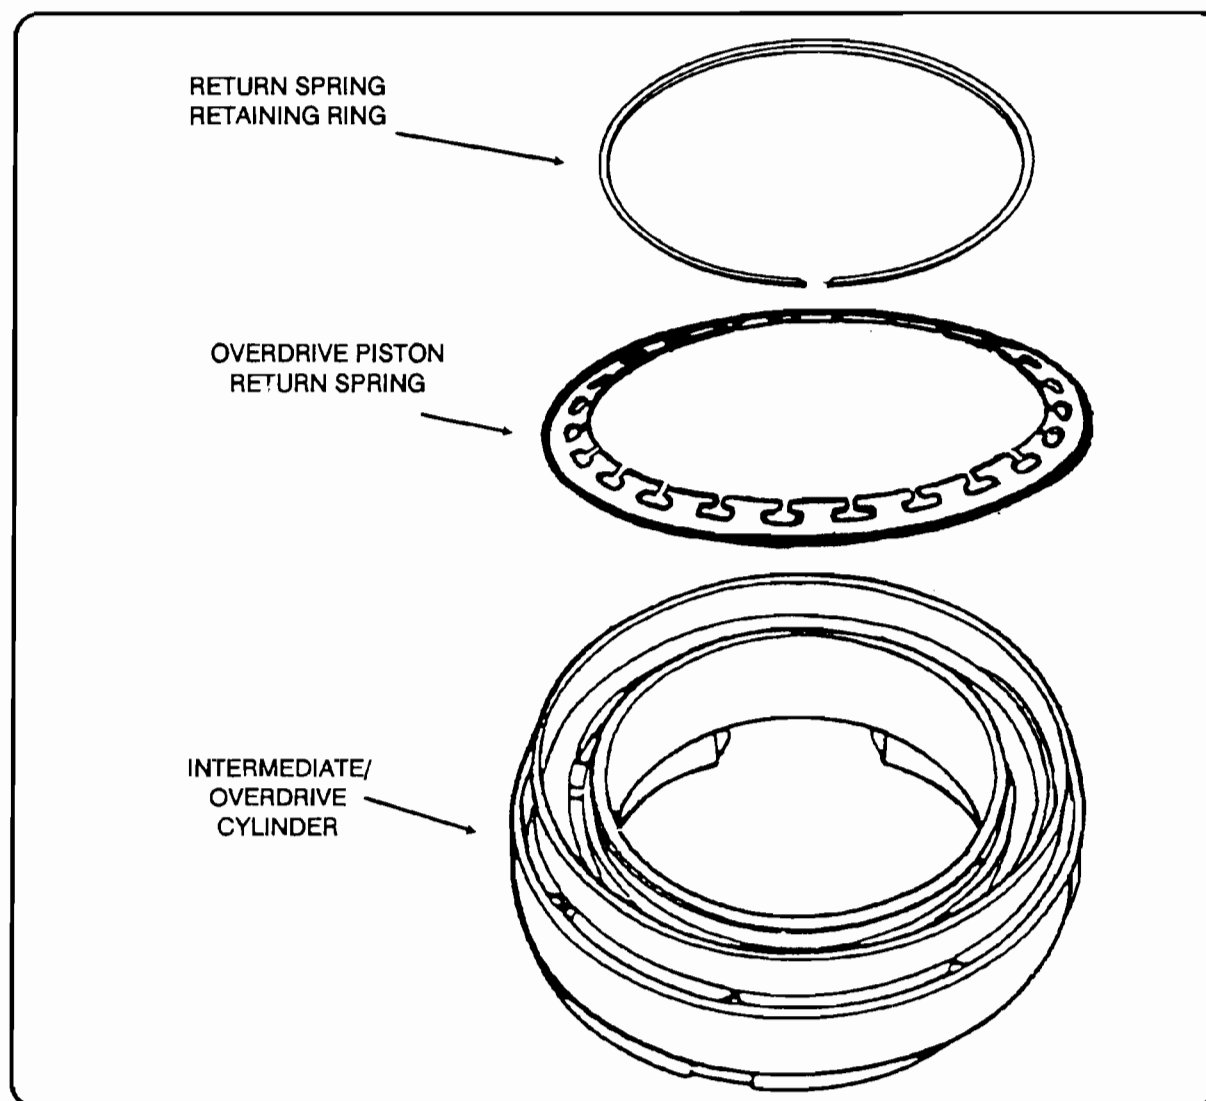

Figure 14
- COMPLAINT:** Harsh 3-4 shift, or upon transmission dis-assembly the o/d piston return spring retaining ring (see figure 14) is dislodged from groove.